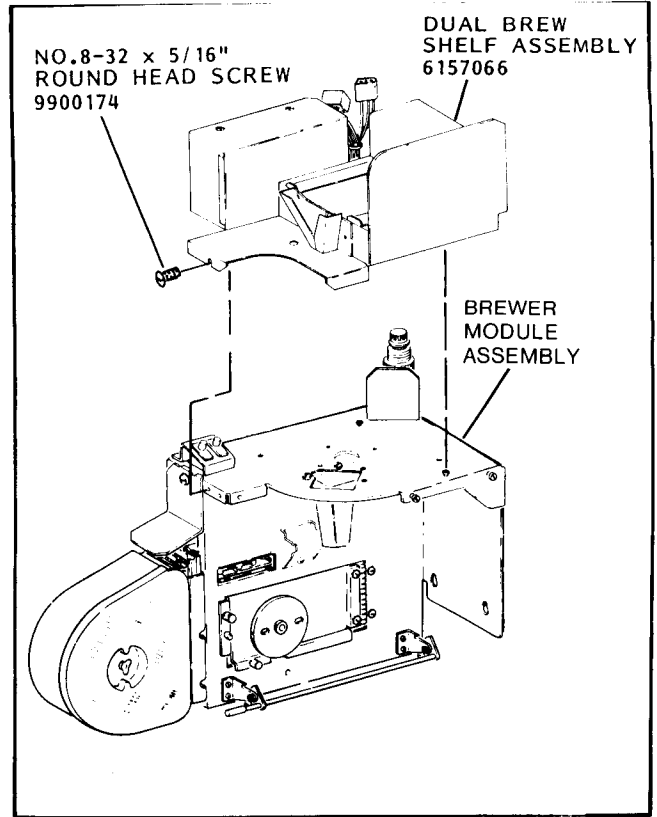

Figure 8
7. Install the Dual Brew Shelf Assembly over the two added Mounting Screws and secure with the remaining 9900174 Round Head Screw. See Figure 8.